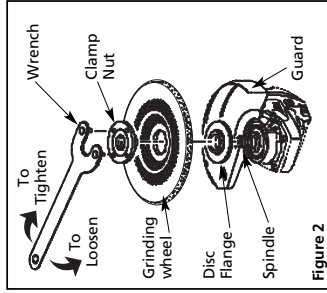

Figure 2
2. Your grinder is shipped with the disc flange and clamp nut attached to the spindle (see Figures 2 & 3).